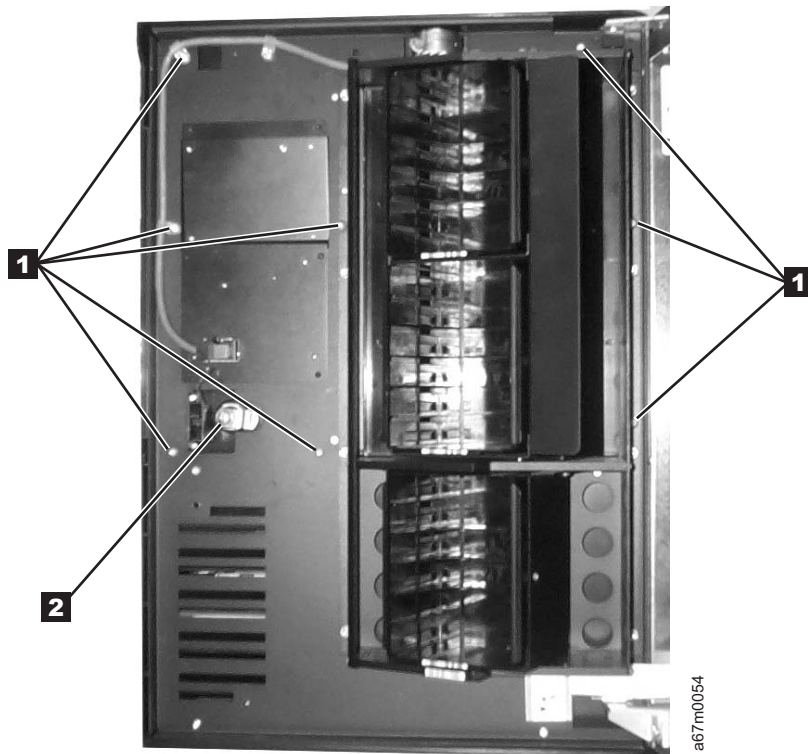

Figure 8-48. Plastic Top Door Removal and Replacement
See Figure 8-48 for locations of components in the following procedure.
4. The Plastic Top Door attaches to the door frame with eight screws **1**. Remove these screws shown in Figure 8-48.